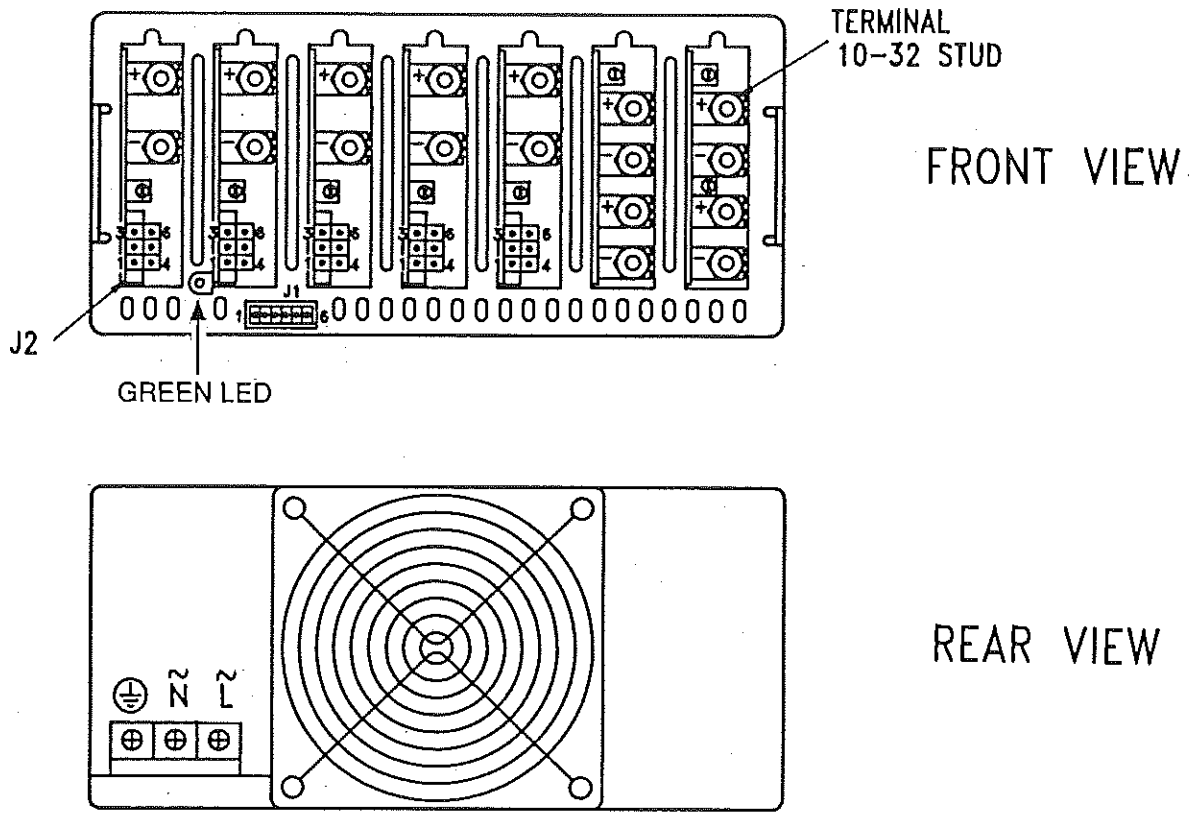

Figure 3. UNIMOD U Series Front and Rear Panel Diagrams.
- 6.1 The UNIMOD U Series front and rear panel configurations are shown in Fig. 3. There are seven module slots in the front of the AC Power Chassis. The control and supervisory signals are accessed through J1, a 6-pin AMP connector on the front panel. The front panel also has a green LED to the left of J1. This LED indicates that there is a faulty DC output if it is off. See description for Power Supply Fault (pin 2) in Section 11.0. In the rear are the DC cooling fan and barrier terminal strip for the three AC input connections.
- 6.2 The configuration shown in Fig. 3 consists of five single output modules on the left and two dual output modules on the right. All modules are the same width. Filler panels are provided for any module slots not used. Each module has an output voltage adjustment potentiometer, and all single output modules have a 6-pin Molex connector for the control and supervisory signal inputs and outputs. Dual output modules do not have this connector. On all modules the top output terminal lug is positive and the bottom one negative.
- 9.2 **Outputs.** Output power connections are made to nickel-plated brass studs on output bus bars. See Fig. 3. The top stud is positive and the bottom stud is negative on each DC Power Module. Dual-output modules have two sets of studs, the top set for the main output and the bottom set for the auxiliary output. All connecting wires for the outputs must be sized to carry the rated output current plus 30%. Connecting wires or lugs must be clean and securely connected at the studs to reduce contact resistance. See section 13.4 for maximum torque on stud nuts. All outputs should have a 0.1uF ceramic capacitor and 10uF electrolytic capacitor in parallel across each output at the backplane, connection point, or point of load to minimize noise pickup.
10.0 CONTROL AND SUPERVISORY SIGNAL CONNECTIONS (SEE FIGURE 3)
- 13.3 **Input Connections.** AC input connections to the power system are made on a three-terminal barrier strip on the rear panel. The barrier strip uses #6-32 screws and maximum torque is 9 in.-lbs. A three-wire AC line and plug must be used for the AC power connection, with the proper connection made to line, neutral and safety ground terminals. See rear panel diagram, Fig. 3, for connections. The proper line cord wire size must be used: No. 12 AWG is recommended.
- 15.1 Connect the AC power cord to the barrier terminal strip on the rear panel (See Figs. 3 and 6). Be sure to use a three-wire power line and plug and make connection to the proper terminals, including safety ground.